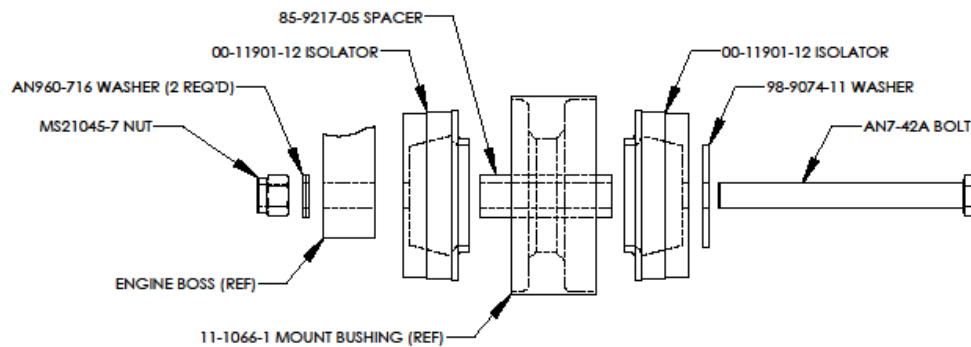

Figure 9-2, Engine Isolator Upper
2. Install engine isolators and mounting bolts as shown in Figures 9-2 and 9-3.